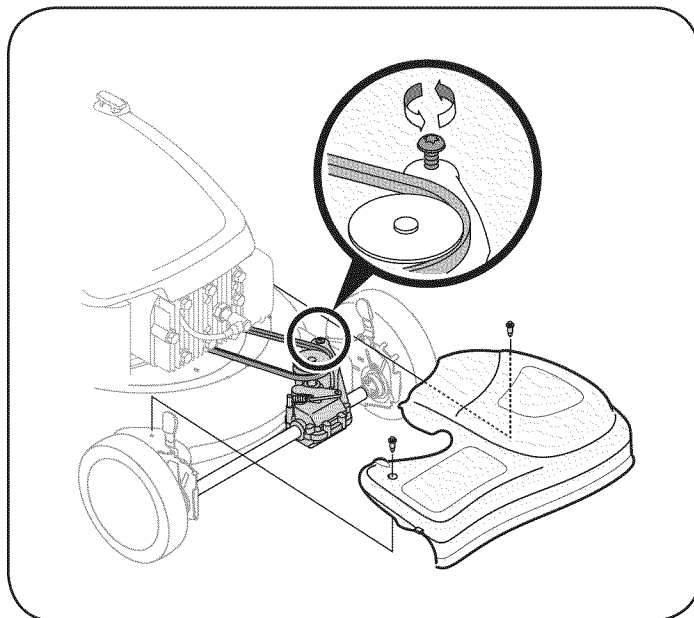

Figure 18
1. Remove two shoulder screws securing front drive cover to mower deck. See Figure 18. Press inward on sides of front drive cover and release tabs that secure it to the height adjuster brackets. Remove drive cover from mower.
2. Loosen screw holding belt tension spring to transmission. See Figure 18 inset. Do not remove screw completely. As you loosen it, tension on the belt will be released.